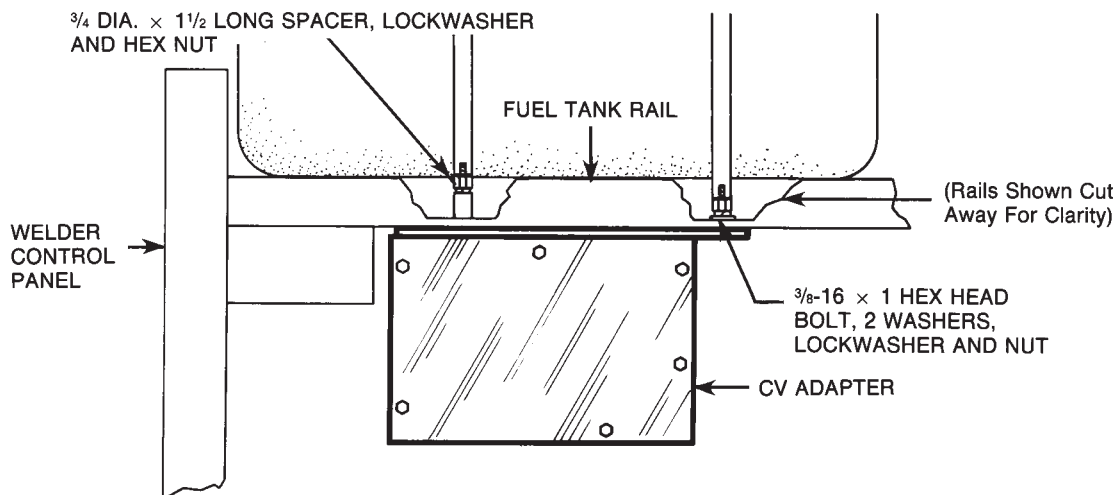

FIGURE 6 – CV Adapter Mounting (Side View).
3. Mount CV Adapter (unit with "SA" above code number) to the support holes. Use the one stud on the Adapter case, a spacer, lockwasher, and nut on one end and 3/8-16 x 1 hex head bolt and hardware on the other end as shown in Figure 6. In mounting the unit, be sure the fuel line and choke cable are not pinched.
2. Mount CV Adapter (unit with "SA" above code number) to the support holes. Use the one stud on the Adapter case, a spacer, lockwasher, and nut on one end and 3/8-16 x 1 hex head bolt and hardware on the other end as shown in Figure 6. In mounting the unit, be sure the fuel line and choke cable are not pinched.